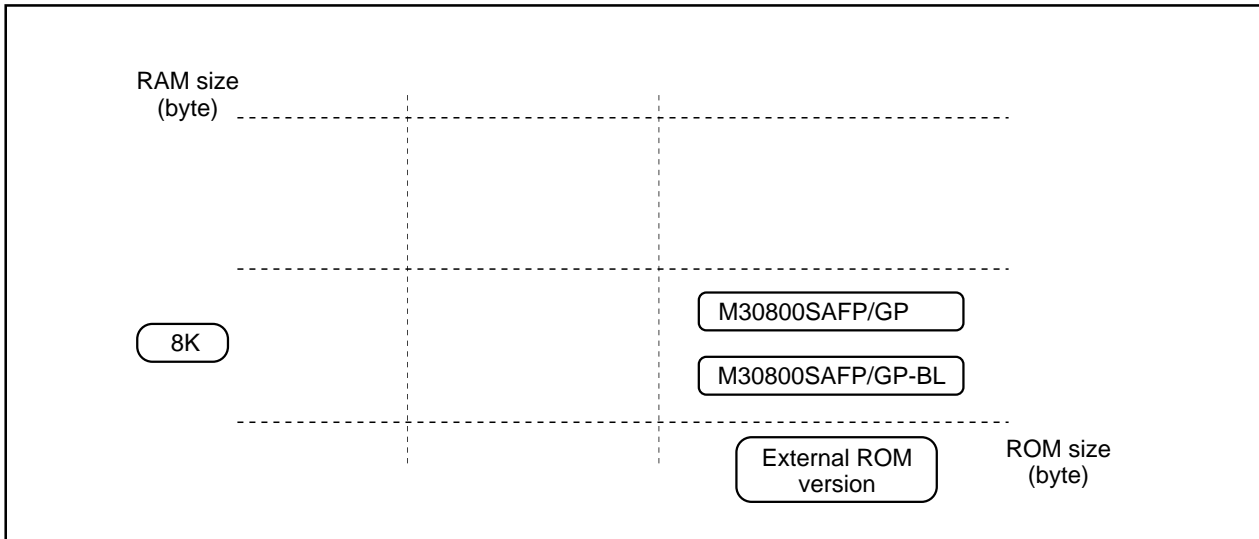

Figure 1.2. RAM expansion
- (1) Support for external ROM version and external ROM version with Boot loader
- (2) RAM capacity : Figure 1.2
- (3) Package